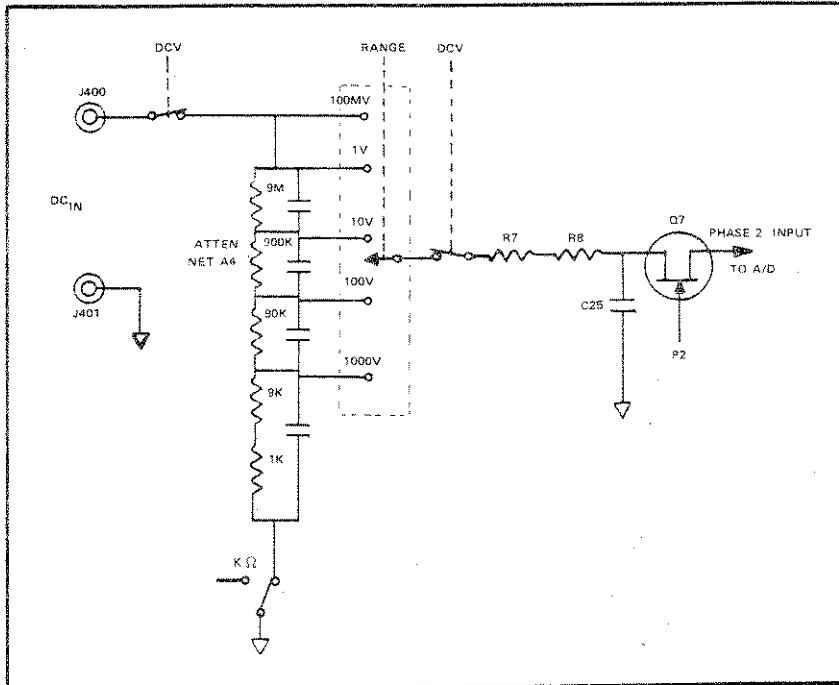

Fig. 4-2 DCV Signal Conditioning
4.3.2 DCV Signal Conditioning (Figure 4-2)